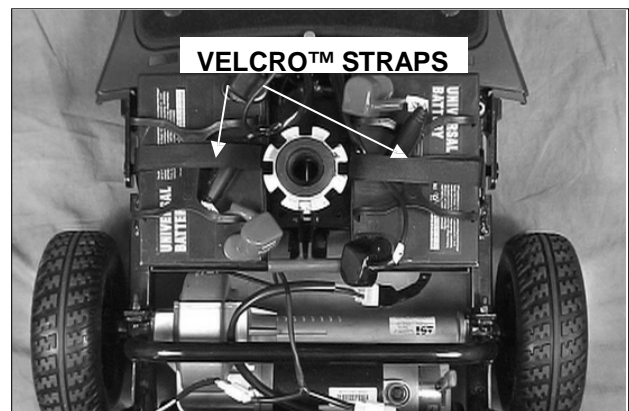

FIGURE 23. BATTERY INSTALLATION
3. Wrap the hook and loop strap around the battery and the battery harness. See figure 23.